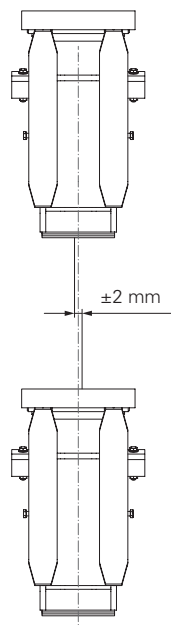

Fig. A3.32
- Climbing Shoe IV: ± 2 mm (Fig. A3.32)